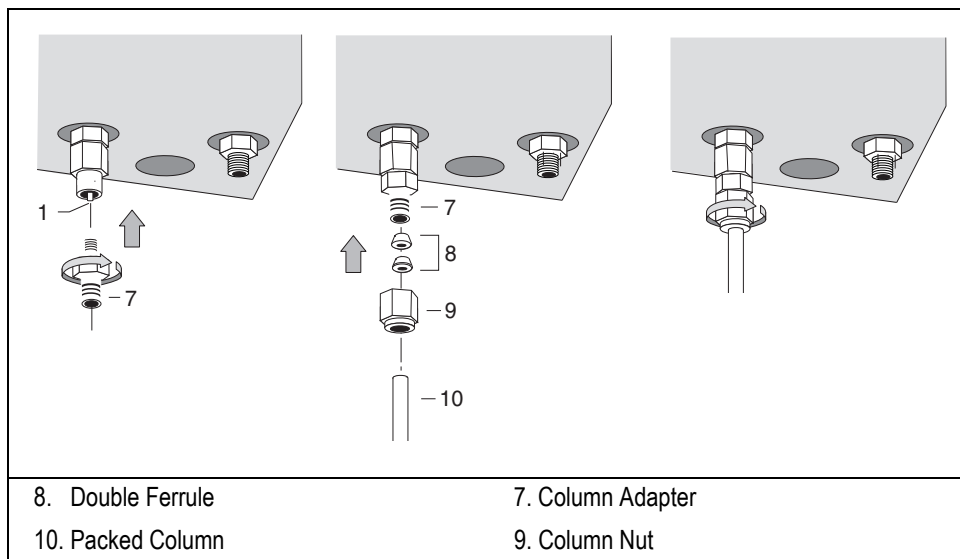

Figure 15-15. Connection to the PDD Detector (2)
7. Insert the column adapter into the base of the adapter for detector as shown in Figure 15-15.